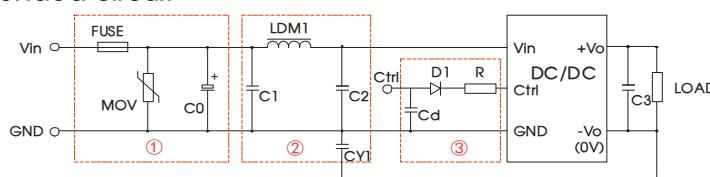

Fig. 3
RE	CISPR32/EN55032 CLASS B (see Fig. 3-② for recommended circuit)
- ① Part ① in Fig. 3 is used for EMS test while part ② is used for EMI filtering; and parts ① and ② may be selected based on needs.
- ② V_c is the voltage of the Ctrl end relative to the GND of the input grounding; V_d is the positive-going conduction pressure drop of D1; I_c is the current flows into the Ctrl end and its value is generally 5-10mA, see Fig. 3-③ for the peripheral circuit of Ctrl end;
- ③ If there is no recommended parameters, no external component is required.